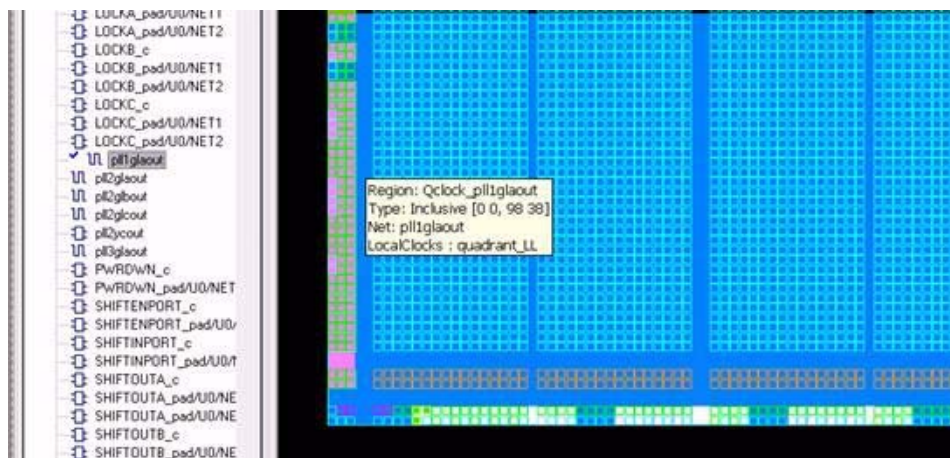

Figure 4-32 • Quadrant Clock Assignment for a Global Net
- Use quadrant global region assignments by finding the clock net associated with the CCC macro under the Nets tab and creating a quadrant global region for the net, as shown in Figure 4-32.